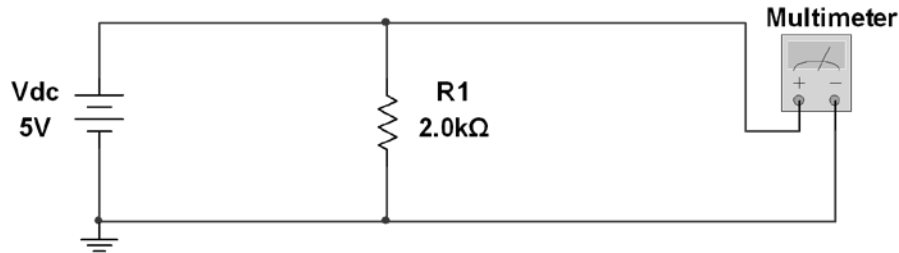
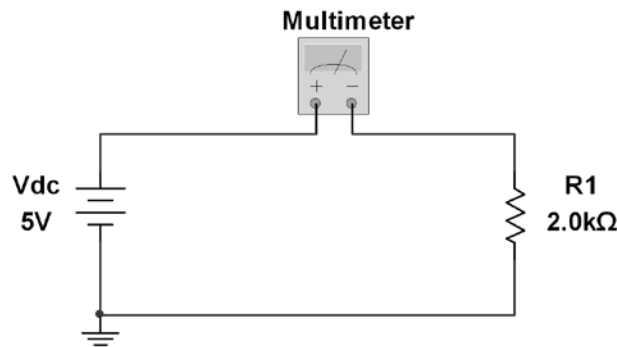

Figure 2-9 Circuit for measuring the voltage across the resistor.
Figure 2-10 Circuit for measuring the current across the resistor.
1. Connect the circuit of Figure 2-9. Use the multimeter to measure the voltage across the resistor (parallel connection in Fig. 2-9). Record the value in Table 2-1.
2. Reconfigure the circuit and multimeter as shown in Figure 2-10 to measure the current through the circuit (series connection). Record the value in Table 2-1.
1. Place a 470-Ohm, 1/4-watt resistor in the SAFETY BOX and make the same connections as in Figure 2-10, leaving the top off.
Table 2-1 Meter readings for Figure 2-9 and Figure 2-10